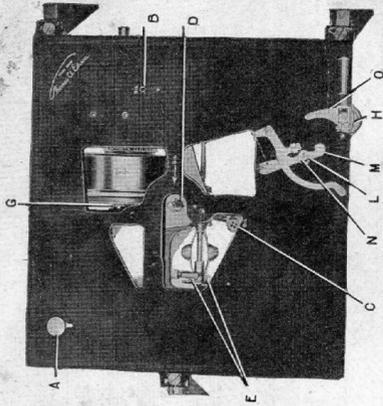

Fig. 2
Refer to Figures 2 and 3.
- B (Fig. 2) Oil Cup (fill with oil).
- C (Fig. 2) Oil Cup (fill with oil).
- D (Fig. 2) Upper Spindle Bearing (oil freely).
- E (Fig. 2) Governor Friction Felts (one or two drops on each).
- G (Fig. 2) Oil tube to Spring Sleeve (oil freely).
- H (Fig. 2) Operating Handle Bearing (3 or 4 drops).